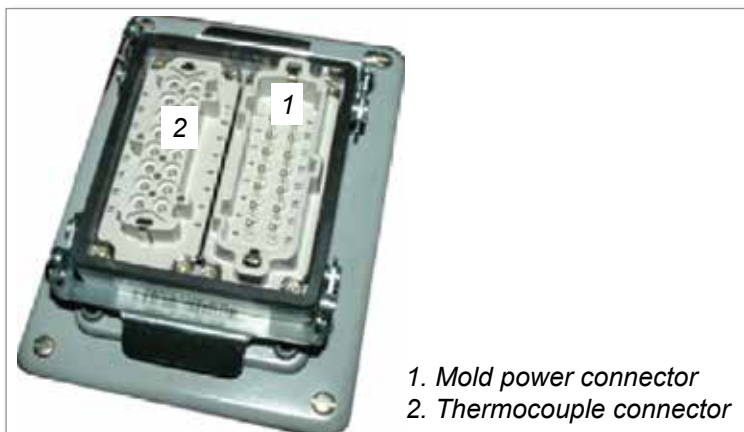

Figure 6-1 Mold plug
1. Measure the resistance between each pair of thermocouple wires on the mold's thermocouple connector. See Figure 6-1.